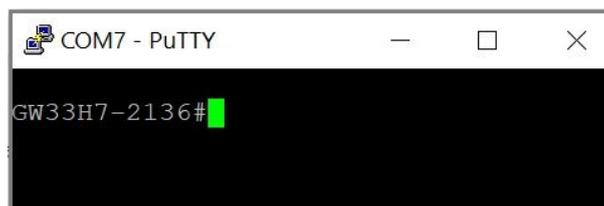

Figure 4: Open terminal window for module configuration via serial line
Open the terminal window by clicking the "Open" button in the "PuTTY" program. After pressing the "ENTER" key again, the system command prompt appears in the form "GW33H7-2136#", which signals that the module is ready for configuration (see Figure 4).
- enter a command only if there is a command prompt ("prompt") in the format "GW33H7-2136#" before the cursor mark (colored or flashing square) (see Figure 4);